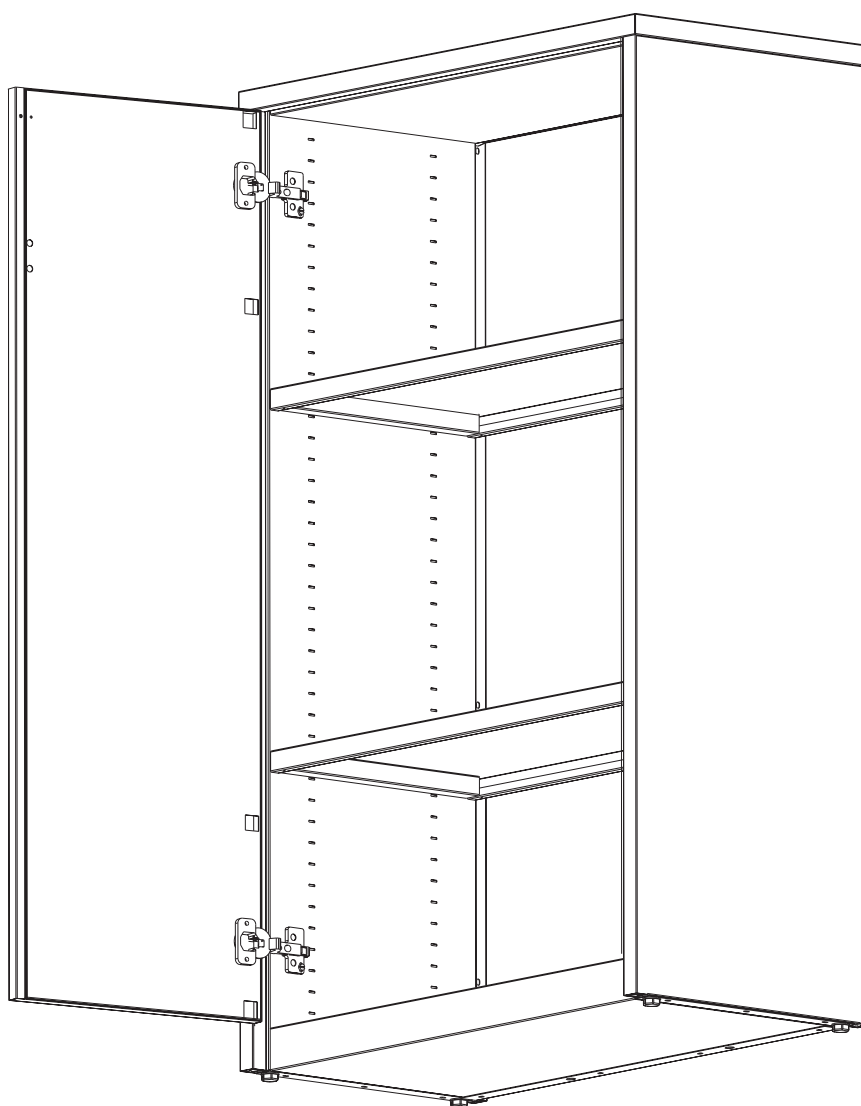

FIG. 5
Locate and mark center of top. Align locating arrow on drilling template with center mark on the top. Using 1/8" drill bit, drill holes for "double door lock stop." Attach lock bracket using (2) #8 X 1/2" pan head screws. (FIG. 5)
Attach lock pawl bracket to left hand door using (2) #6 x 5/8" pan head screws. (FIG. 5)